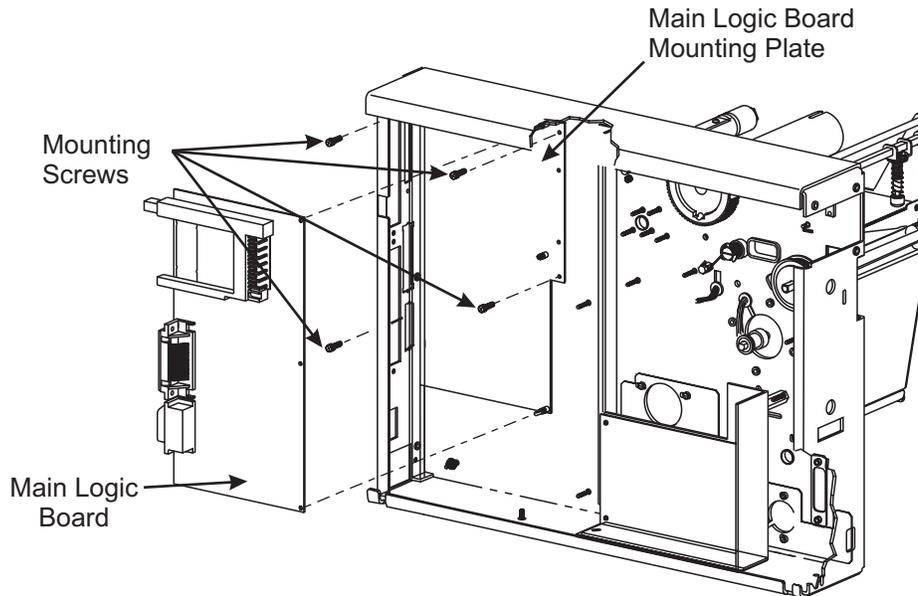

Figure 6-4. Mounting Bracket Removal (XiIII and R-140)
6. Refer to Figure 6-4. Remove the main logic board mounting plate.